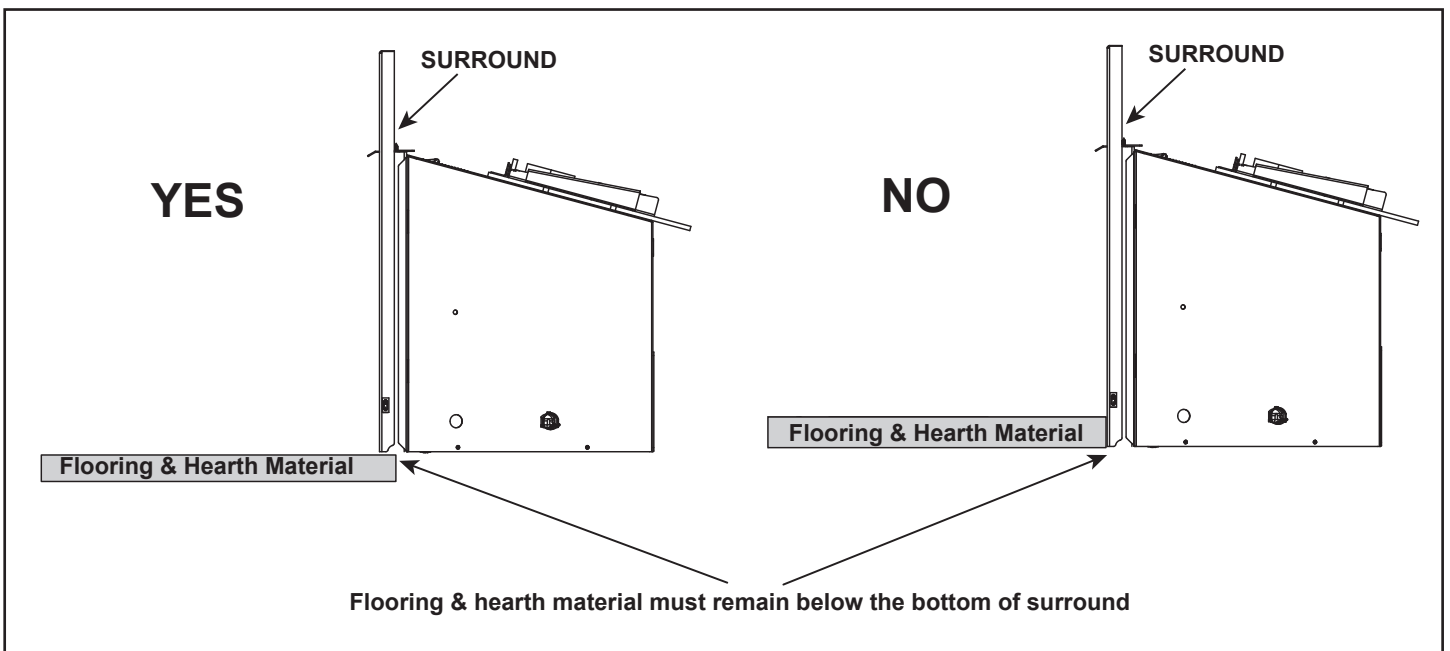

Figure 3.17 Flooring & Hearth Material
- All flooring and hearth material must remain below the bottom of the surround. See Figure 3.17.
- Combustible flooring may be located in front of the appliance. Exception - no vinyl / adhesive flooring. See Figure 3.17.